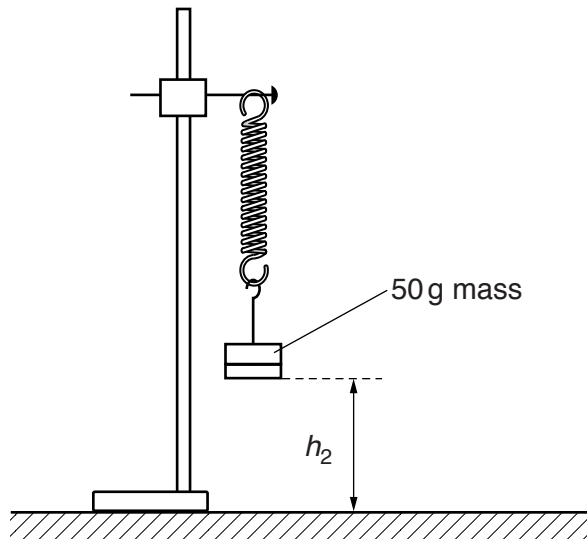

Fig. 2.5
- (iii) Add the 50 g mass to the mass hanger and measure the height h_2 of the bottom of the mass hanger above the bench, as shown in Fig. 2.5.